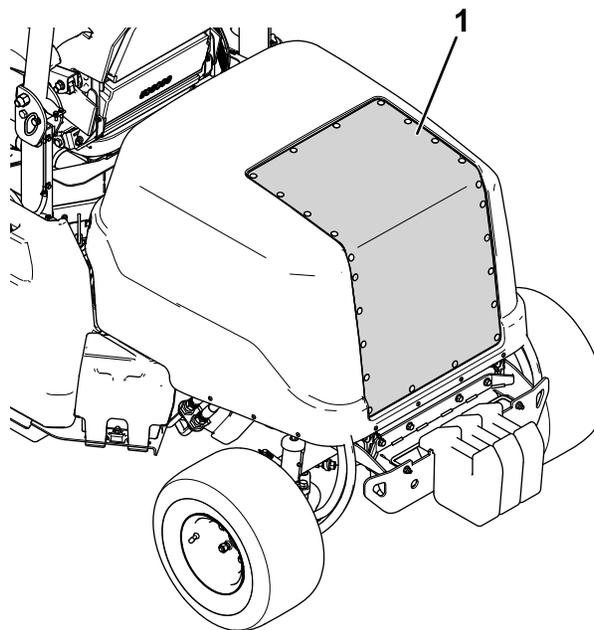

Figure 69
2. Use compressed air to clean the hood screen (shown in Figure 69). Direct the air out from the machine.